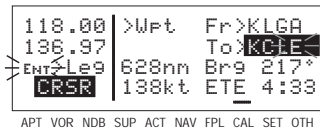

Figure 4-54
5. With the cursor over the "to" waypoint, enter the desired identifier (figure 4-54) and press **ENT** twice. The distance in nautical miles and the bearing will be displayed on line 3.